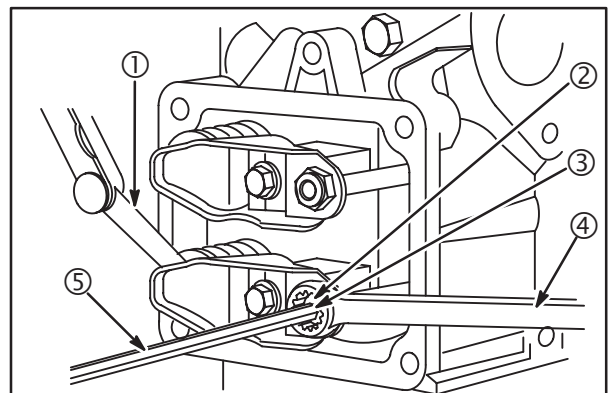

Fig. 49
2. Use a feeler gauge (1) to measure the valve clearance. Valve clearance should be **0.005" (0.13 mm)** for the intake and exhaust valve.
3. If the valve clearance requires adjustment, loosen the lock nut (2) with a wrench (4). Use a hex wrench (5) to turn the adjusting screw (3) to adjust the valves, **Fig. 49**.